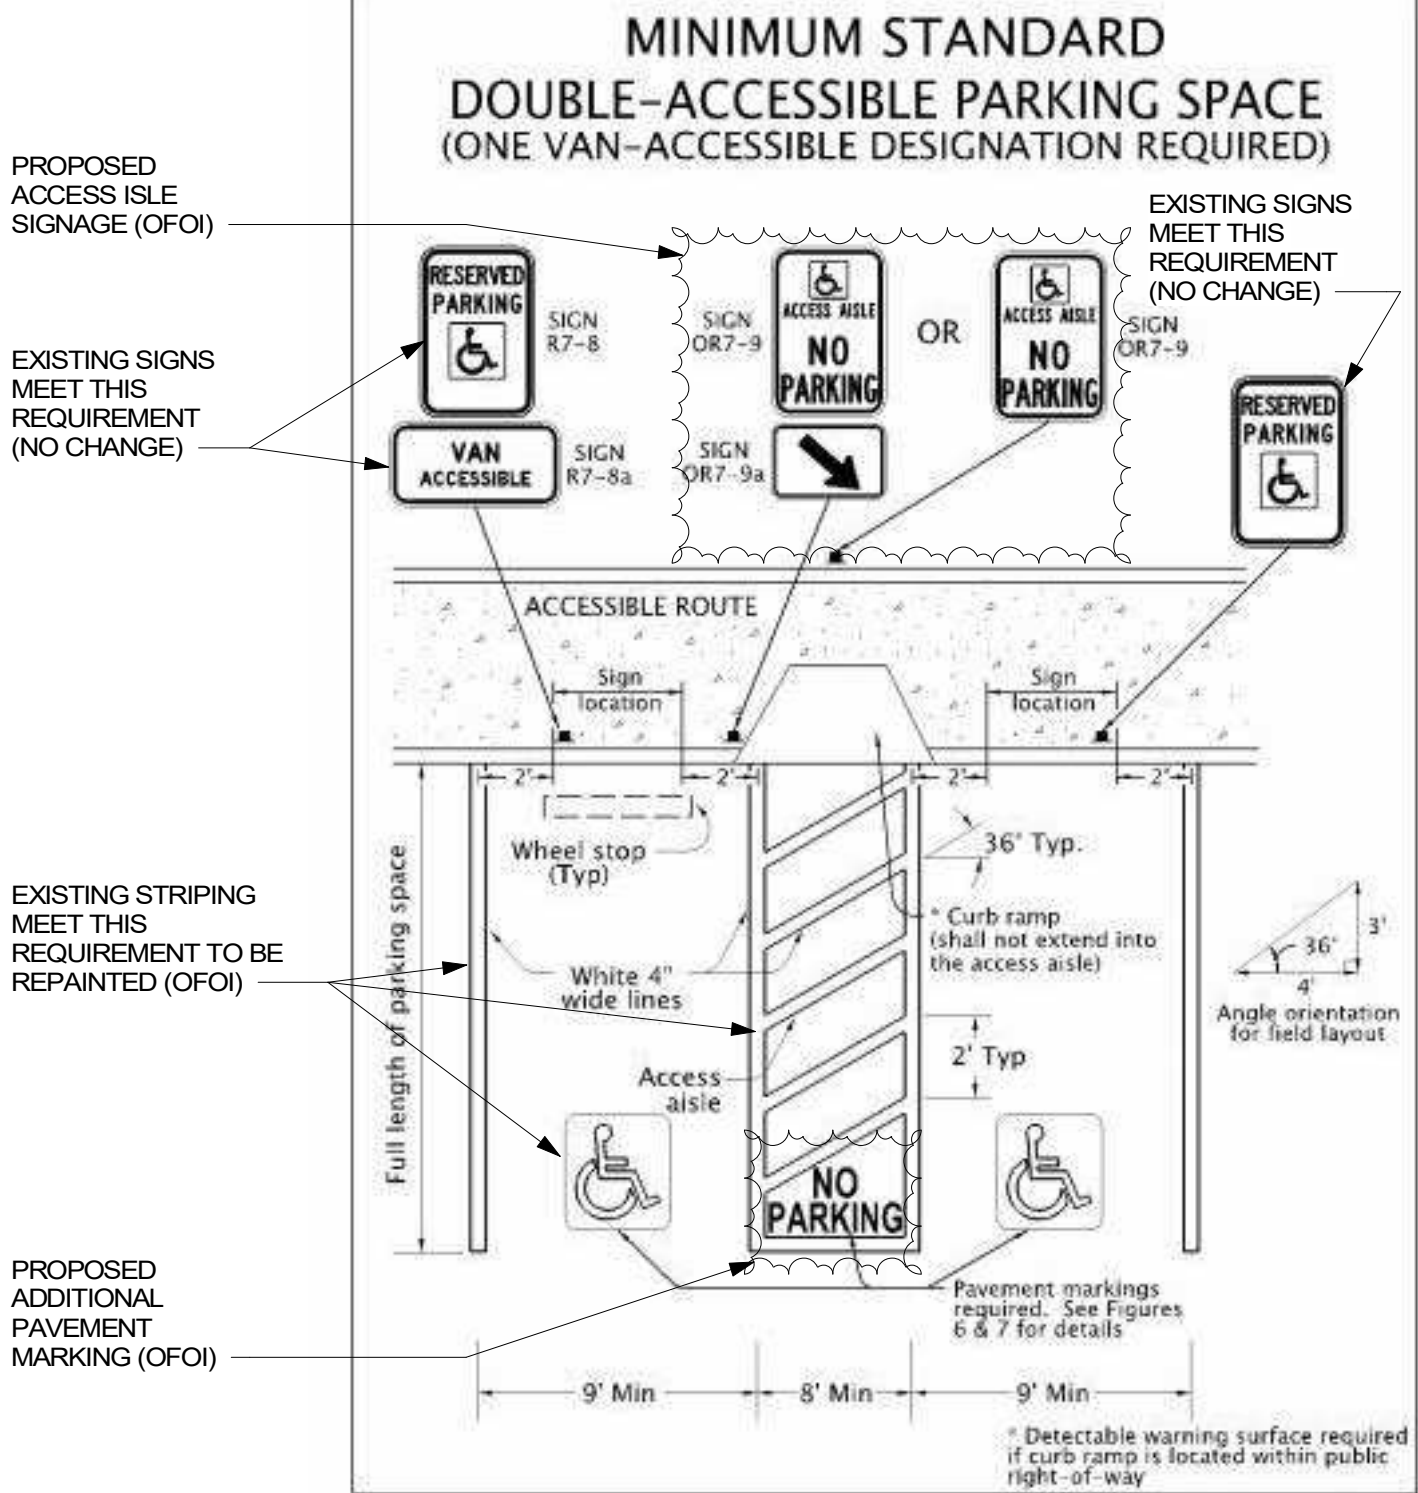

Figure 2
1. PARKING STRIPING AND "NO PARKING" SIGN TO MEET ODOT STANDARDS IN (2) PLACES PER NOTED FIGURE 2
5. REPLACE (3) DOOR KNOB HARDWARE AT OFFICES WITH ACCESSIBLE LEVER TYPE HARDWARE.